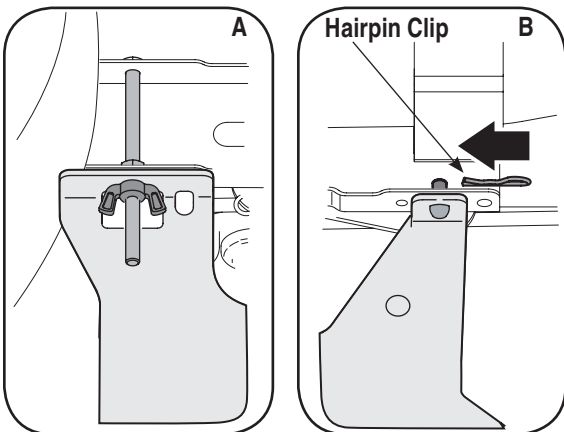

Figure 22
2. Lift the undercarriage assembly up, inserting the weld pins on the assembly up through the aligning holes found along the tractor's frame rails. Fasten with hairpin clips and flat washers removed earlier. See B in Figure 22.